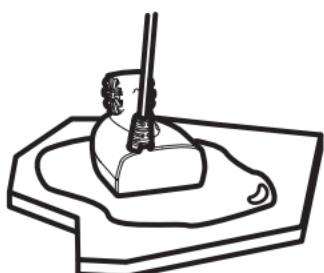

Figure 31
- Press the transducer into place with a slight twisting motion to purge any trapped air from underneath, keeping the pointed end of the transducer body pointed forward, towards the bow (Figure 31).